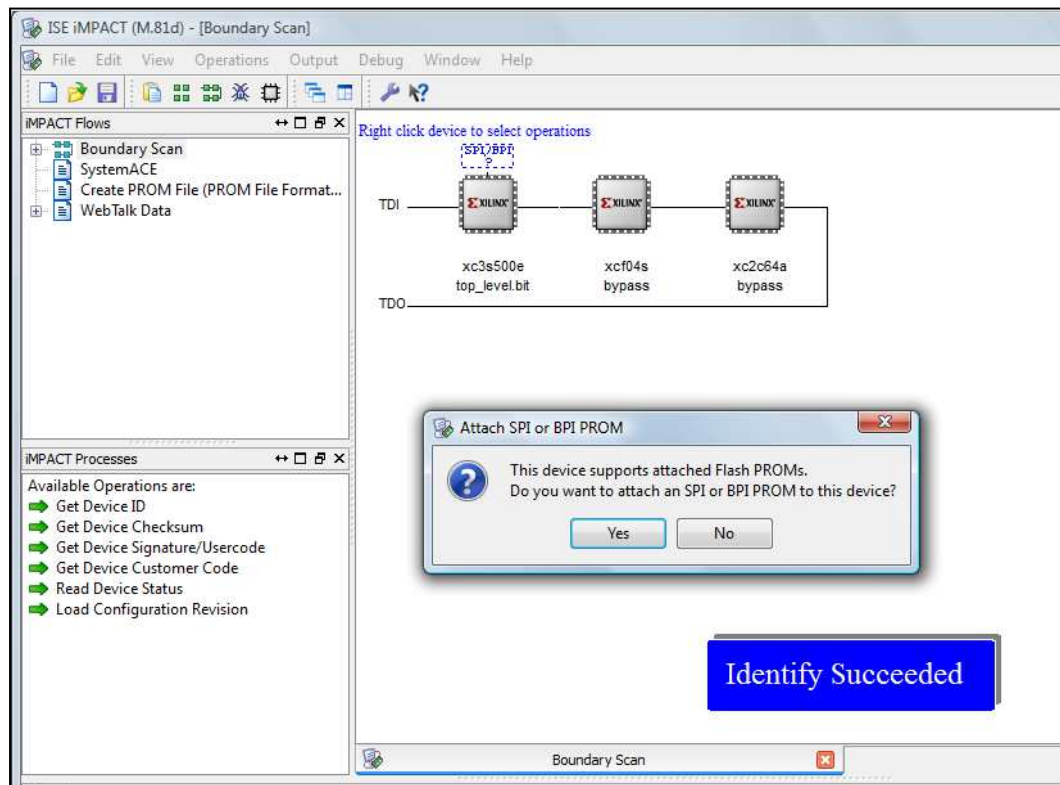

Figure 6.54: iMPACT window, dialog box asking if we wish to attach an SPI or BPI PROM.
9. A message stating “This device supports attached flash PROMs. Do you want to attach an SPI or BPI PROM to this device?” will appear (Figure 6.54). This is not needed for this design. Click **No**.